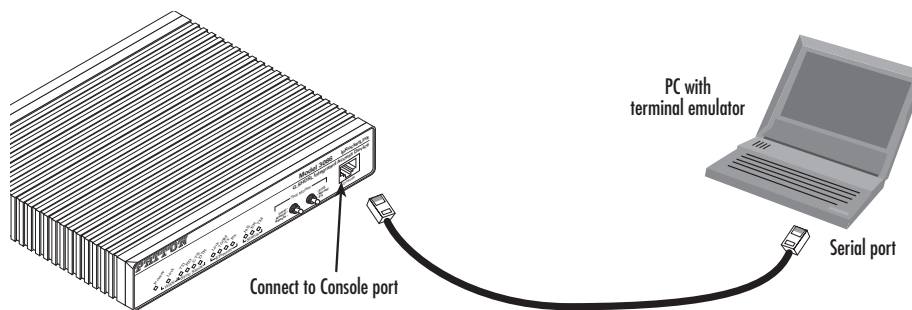

Figure 1. Connecting the ipRocketLink console port to the PC's RS-232 serial port
1. Using the included combination RS-232/Ethernet cable and DB9-RJ45 adaptor, connect a PC's serial port to the ipRocketLink's *Console* port (see figure 1).